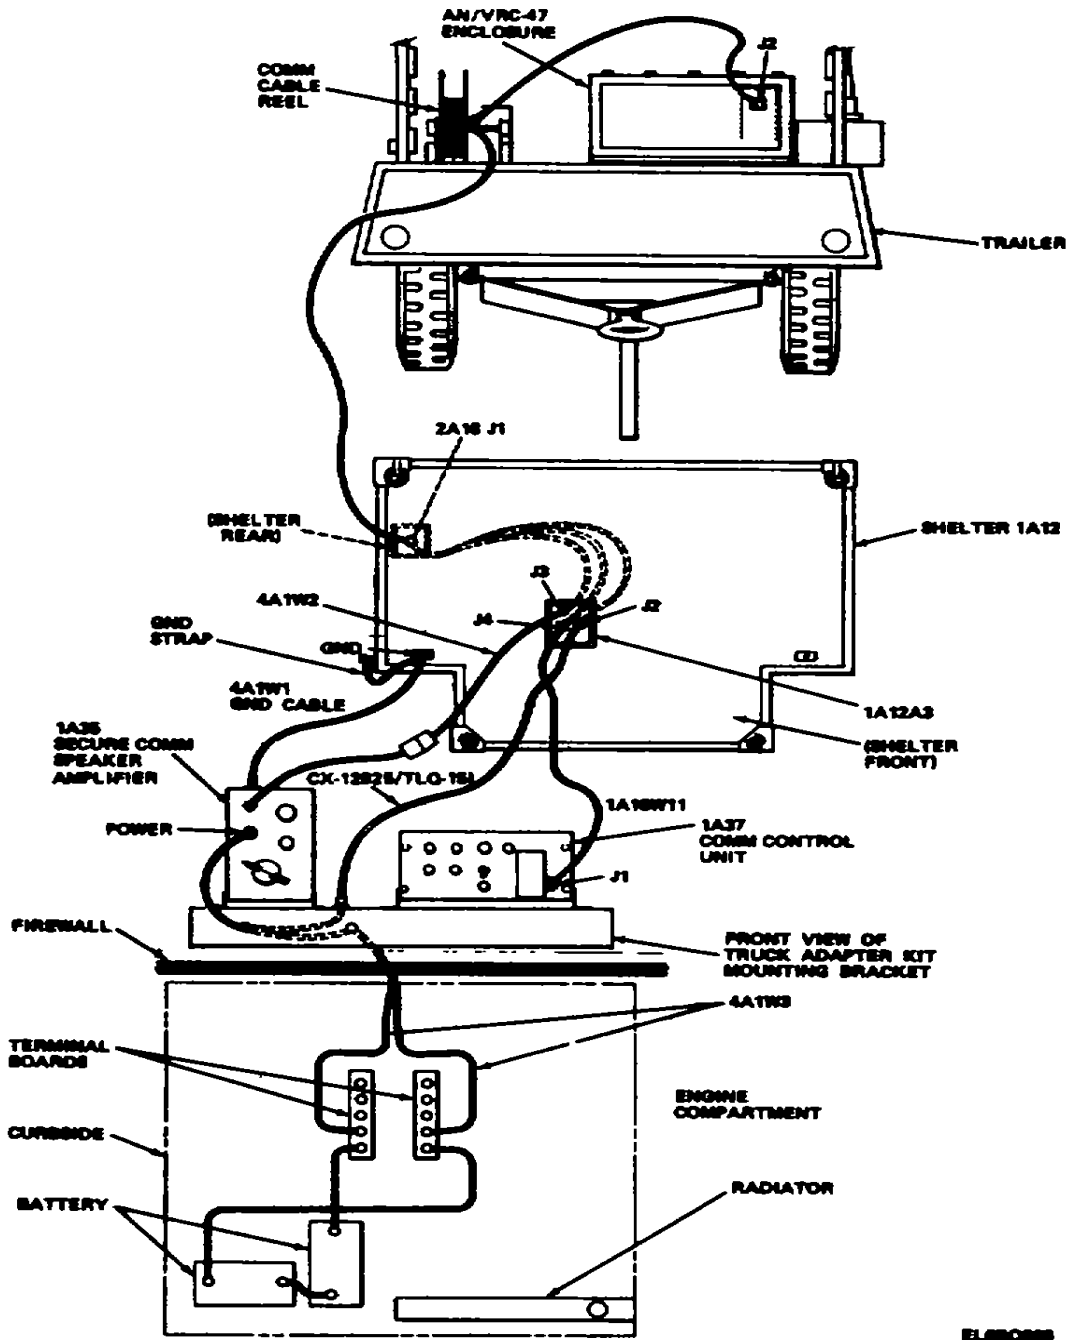

Figure 2-20.4 Vhf mobile communication interconnection M883 and M884 vehicles
- k. Connect secure comm speaker amplifier cable to cable 4A1W2 under floor mat (fig. 1-8 and fig 2-20.4), and pass through hole in floor.
o. Raise engine hood, and disconnect positive battery cable from truck battery located on curbside (fig. 2-20.4).
p. Connect terminal leads of cable 4A1W3 to terminal boards on fender well in engine compartment (fig. 2-20.4). Observe polarity marked on cable leads while making this connection. Reconnect positive battery cable to battery.
q. Run remaining cables to back of cab and connect cables CX-12925/TLQ-15, 4A1W2, and 1A18W11 to connectors J2, J3, and J4, respectively in shelter junction box 1A12A3 (fig. 2-20.4). Secure cables to underside of vehicle.
r. Connect ground cable 4A1W1 from secure comm speaker amplifier to shelter radial connection on front and side of shelter; use ground strap to make side connection (fig. 2-20.4). Secure ground connections with thumbscrews.